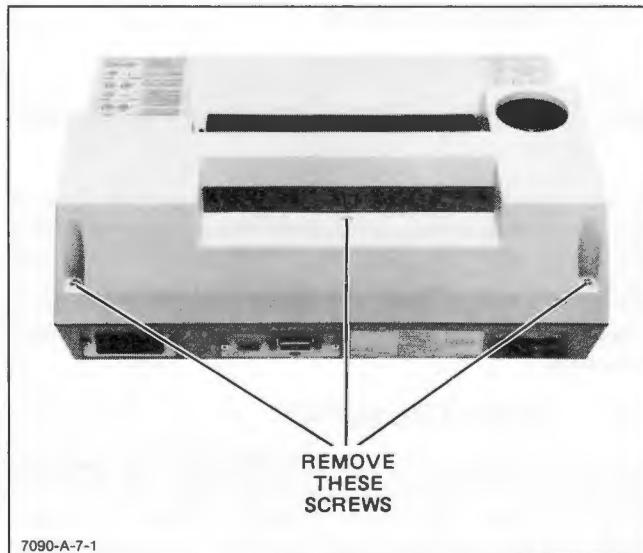

Figure 8-11. Top Cover Removal
- a. Set the HP 7090 LINE switch to OFF (0) and disconnect the line cord.
- b. Remove the HP 7090 top cover by removing the screws indicated in Figure 8-11.